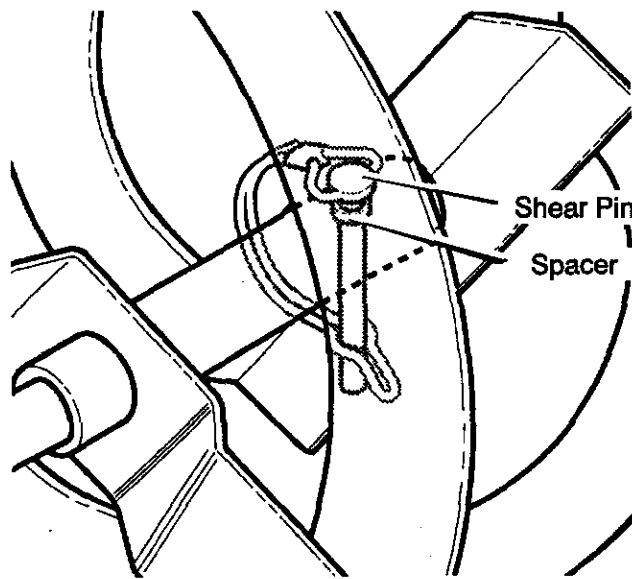

Figure 45
3. Align the hole in the auger with the hole in the auger shaft. Install the new **shear pin** and **spacer**. See Figure 45.